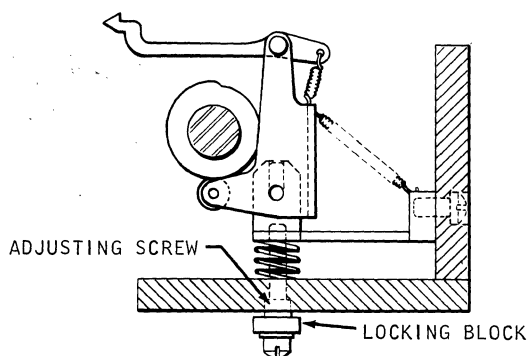

Figure 4-9. Forward Aligner Adjustments
b. Turn the forward aligner adjusting screw clockwise to move the forward aligner away from the hopper and counterclockwise to move the forward aligner toward the hopper (Figure 4-9).